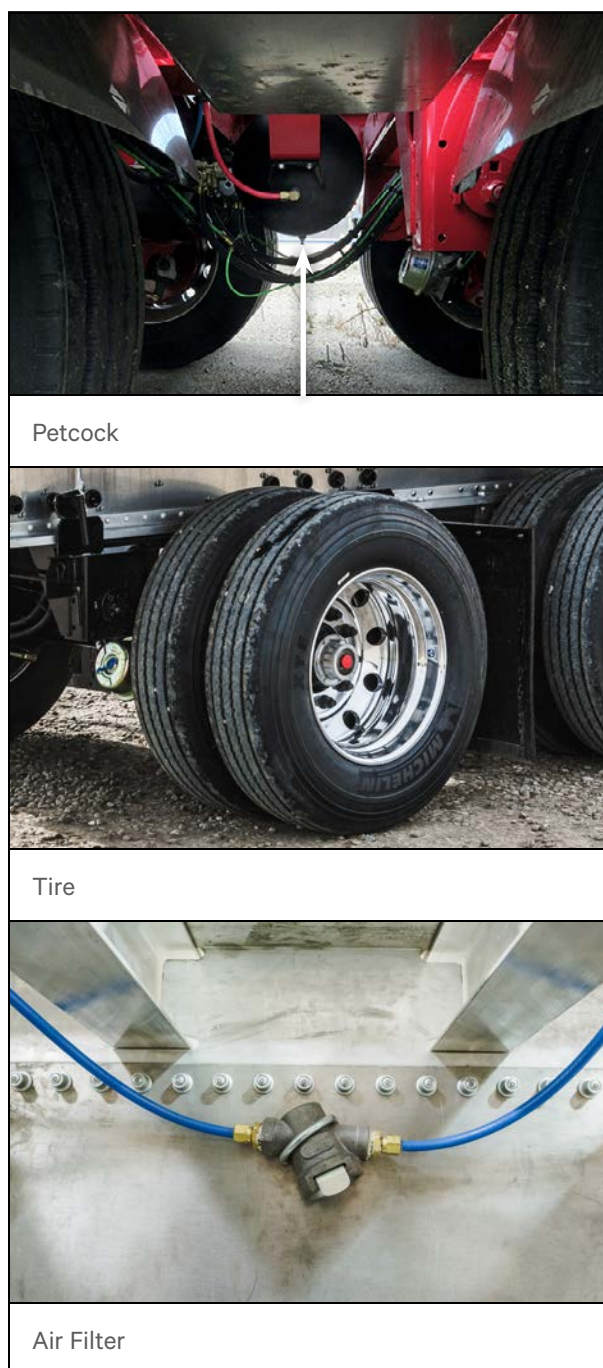

Figure 25 – Servicing (Typical)
- The air brake line is equipped with an in-line filter to trap debris. This filter is located along the roadside of the upper coupler assembly. Reference Figure 25. Remove the filter cartridge. Blow out any debris with compressed air or wash the cartridge with mild detergent and water. Ensure it is completely dry before reinstalling the cartridge in the filter body.